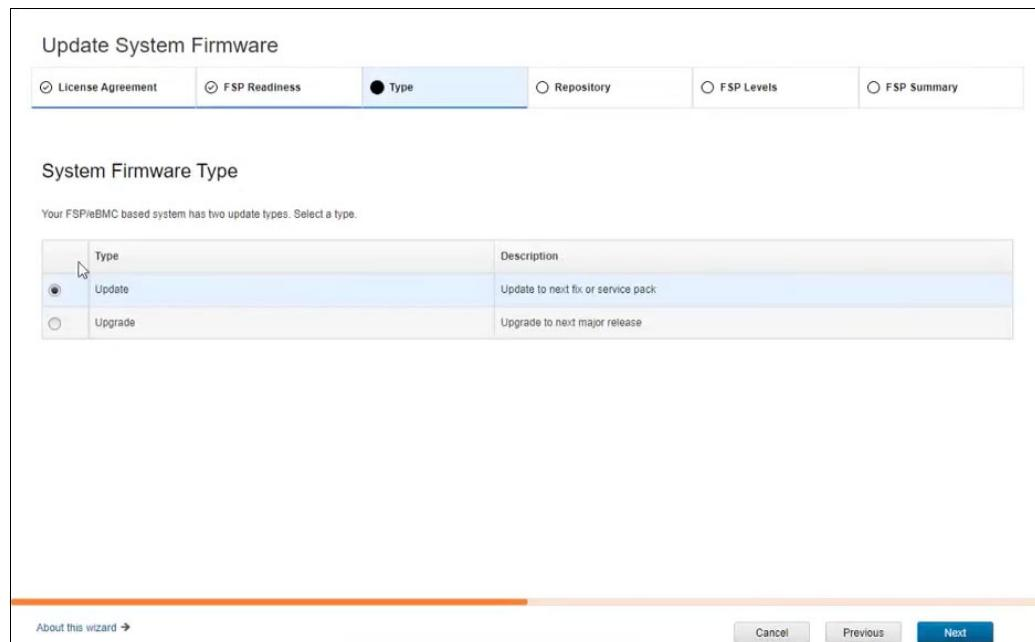

Figure 2-50 System Firmware Type window
4. The System Firmware Type window opens. Two options are available: update or upgrade (see Figure 2-50). Click **Update** and then click **Next**.